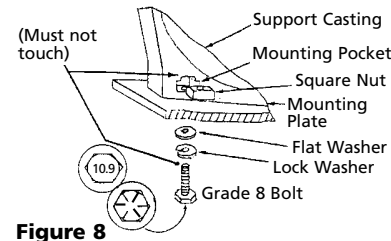

Figure 8
3. Use only square nuts in casting for mounting. (See Figure 8.)
CAUTION The end of the mounting bolts must not contact the opposite side of the support casting's mounting pocket (see Figure 8).
WARNING Do not substitute any strength grade weaker than SAE Grade 8 (ISO 10.9). Grade marking is found on the bolt head and is pictured in Figure 8.